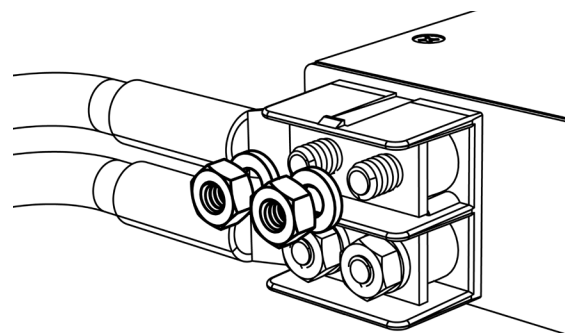

Figure 14. HOT input landing
Step 3. Install the HOT input cables/lugs to the HOT input studs located on the rear of the panel (see Figure 14). Ensure that all hardware is tightened.